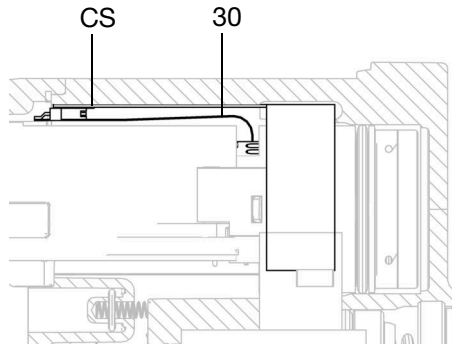

FIG. 31. Connect Flexible Circuit
8. Insert the power supply/turbine assembly in the gun body (10). Make sure the ground strips (EE) make contact with the gun body.
Smart models only: Align the connector of the 6-pin flexible circuit (30) with the socket (CS) at the top of the gun body. See FIGURE 31.